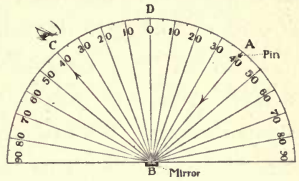

FIG. 198. — Angles of Incidence and Reflection.
**Experiment 65.** — From stiff cardboard make a semicircle having a radius of twelve inches (Figure 198). Support the cardboard so that the line marked  $0^\circ$  is perpendicular to a plane mirror on which it rests. The mirror should not be wider than one half inch. Thrust a bright-headed pin through the semicircle near the end of one of the lines. Move the eye along the other side of the semicircle until a position is found where the pin may be seen in the mirror. How does the angle of incidence  $ABD$  compare with the angle of reflection  $CBD$ ? Make readings with the pin in a number of different positions along the circumference. Can you formulate the law for the reflection of light?